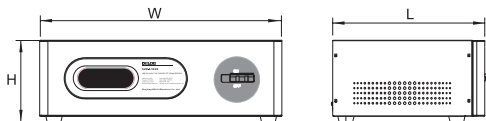
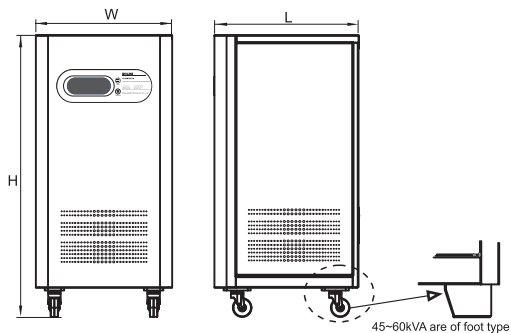

Figure 11 SJW-1.5~4.5kVA Product outline dimension
Figure 12 SJW-6~30kVA Product outline dimension
3.2. The appearance of the SJW-series is shown in Figure 11 and Figure 12.